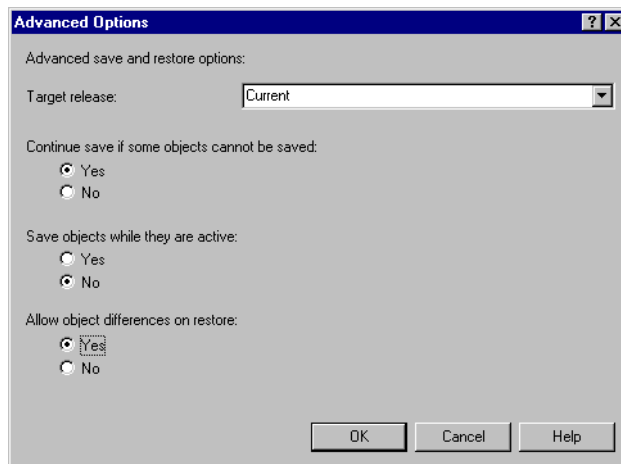

Figure 176. Package definition (Advanced Options)
5. Click the **Advanced** button. You see the window that appears in Figure 176. At this window, specify whether certain differences that are encountered during a restore operation are allowed. Select **Yes** so that the object is restored.